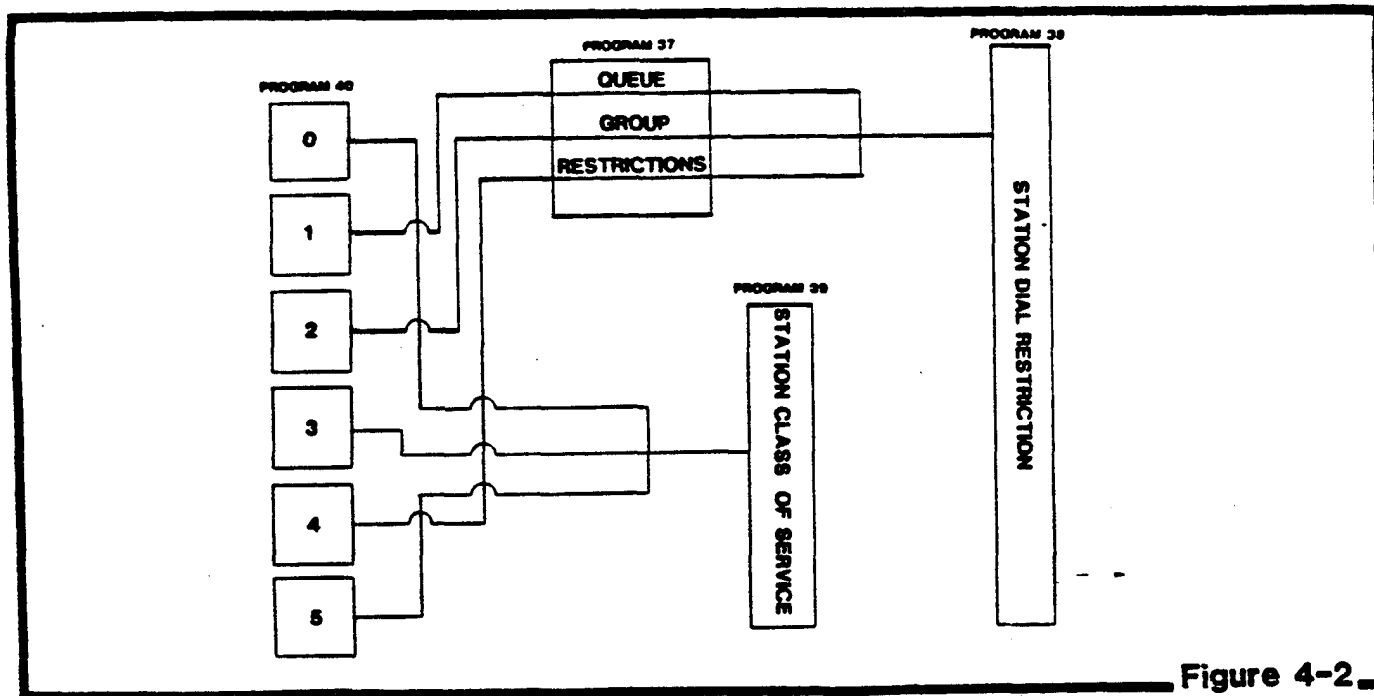

Figure 4-2
2.34 Program 37, Queue Group Restrictions, will not allow stations which are dial restricted in Program 38, Station Dial Restrictions, to dial on an outgoing line within an assigned queue group. (Refer to Figure 4-2).
2.40 For a ready reference of the results of the entries in programs 37, 38, and 39, see Table 4-1 and Figure 4-2.